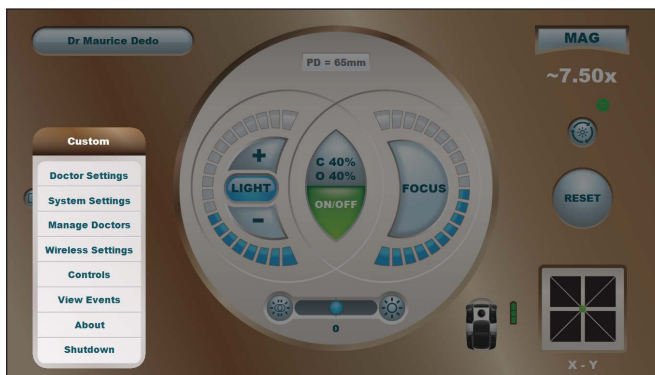

Figure 3-4 The Custom Menu
1. **Menu** - On the LX3 Primary Control Panel, press the MENU button, (*Figure 3-2*). The Custom menu appears in the lower-left corner, (*Figure 3-4*).
2. **Doctor Settings** - To access the current doctor's preferred settings, press the Doctor Settings button on the Custom menu, (*Figure 3-4*). Select either the General Tab, (*Figure 3-5*) Optics Tab, (*Figure 3-6*) Footswitch Tab, (*Figure 3-7*) Display Tab, (*Figure 3-8*) or the Reset Tab, (*Figure 3-9*) and change the settings as desired, then press the green check button.